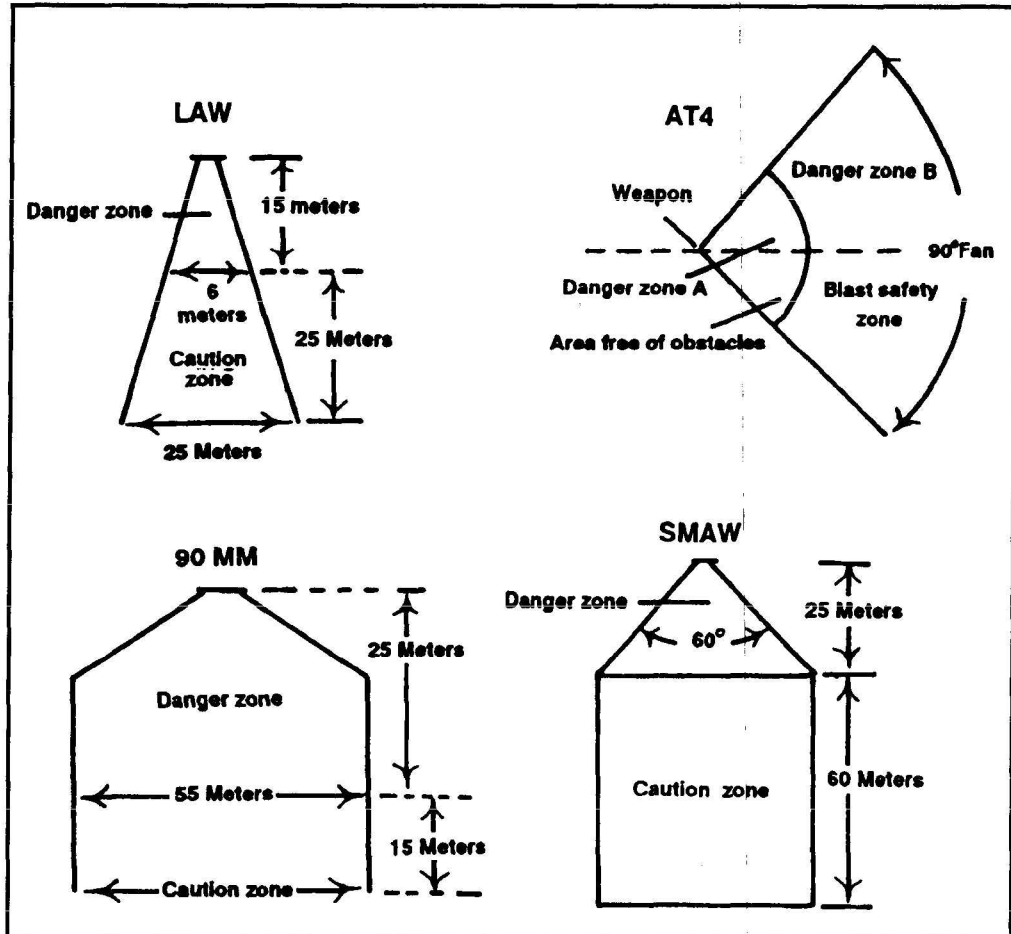

Figure 8-5. Backblast areas of light recoilless weapons in the open.
b. **Backblast.** Backblast characteristics must be considered when employing all recoilless weapons. During combat in built-up areas, the backblast area in the open is more hazardous due to all the loose rubble, and the channeling effect of the narrow streets and alleys. Figure 8-5 shows the backblast areas of United States light and medium recoilless weapons in the open.